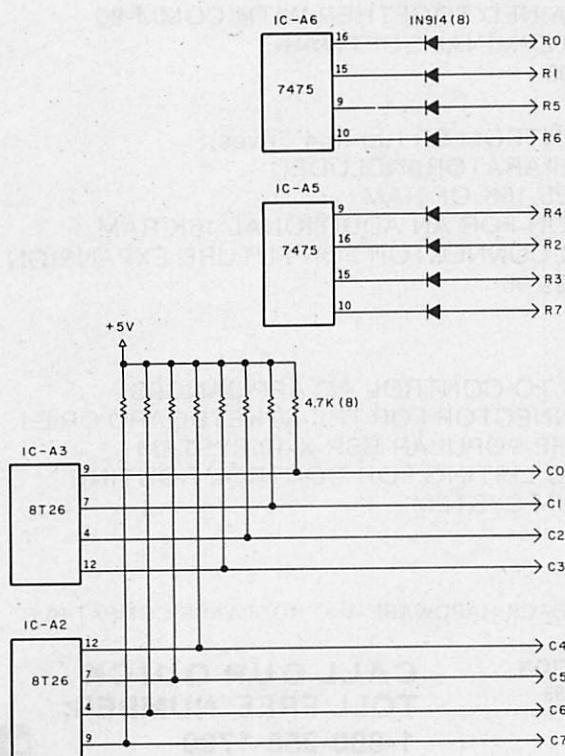

Fig. 9. Keyboard row and column components.
2. Wire the socket to the eight row address diodes and the eight column address pull-up resistors (see Fig. 9).